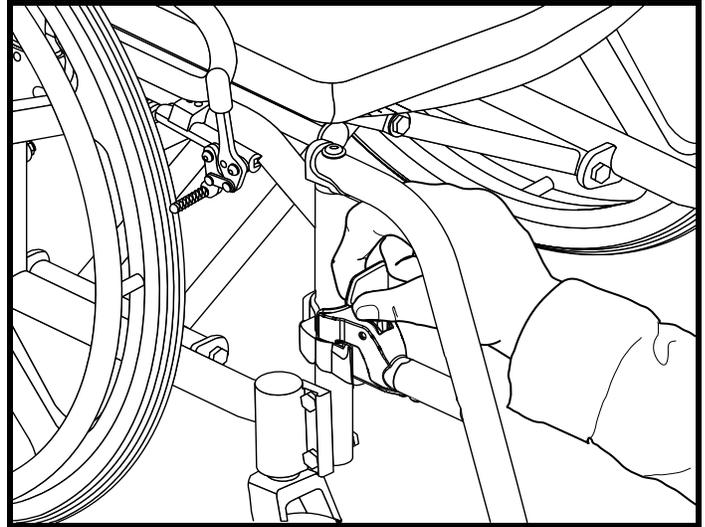

Figure 21. SFR Release
1. Push the release lever back. See figure 21.